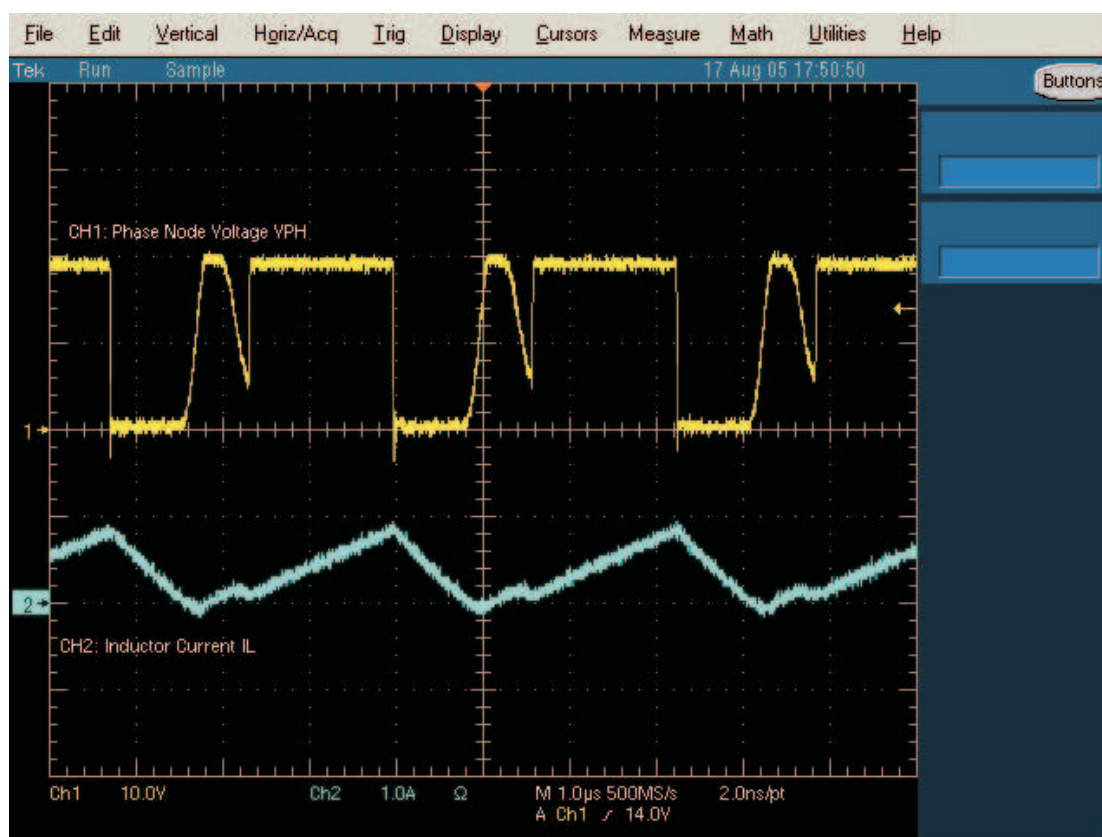

Figure 7. The Waveforms at $I_{bat} = 300 \text{ mA}$
- b. Observe \rightarrow The inductor current waveform looks like that shown in Figure 7. The inductor current does not drop below 0 A.